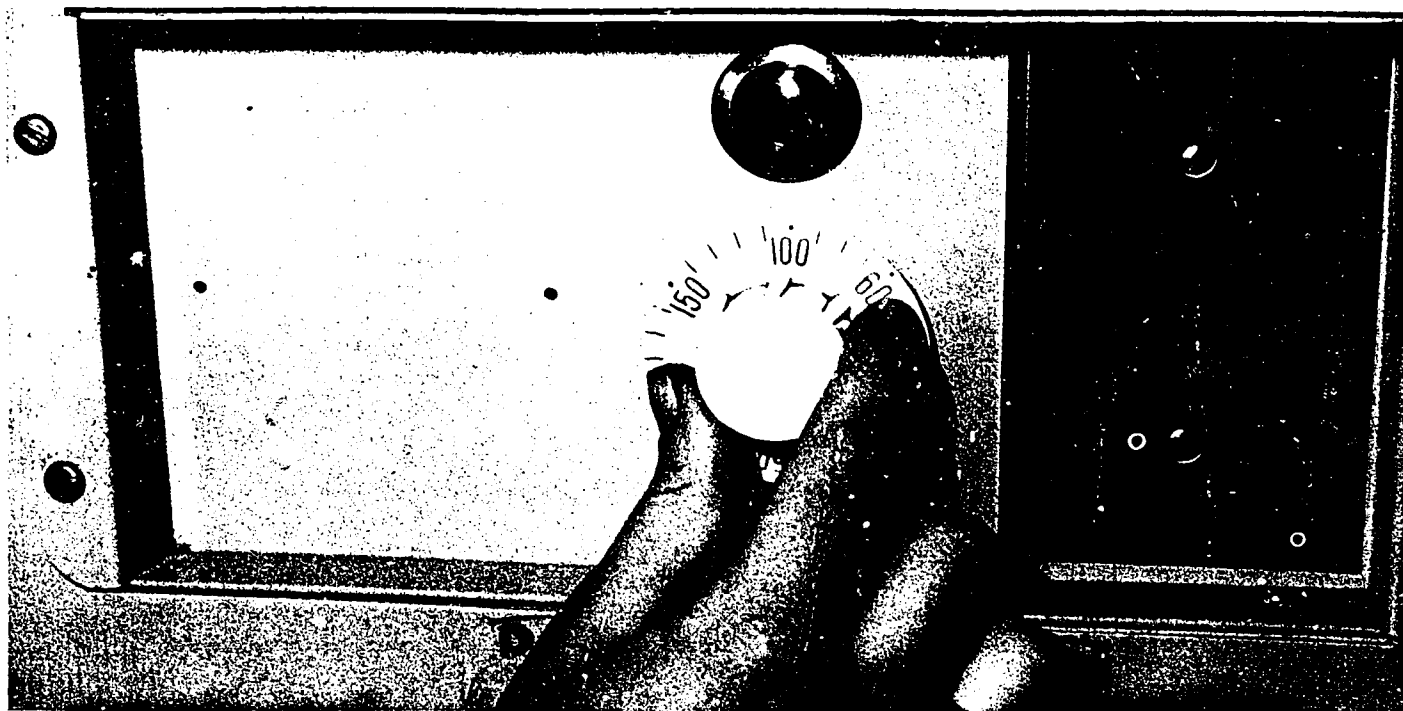

Figure 2-7. Film dryer controls.
(1) Hang your wet film up and squeegee it in the conventional manner.
(2) Turn the main switch to ON (fig. 2-7).
(3) Set the thermostat (fig. 2-7) to the desired temperature. This should not be higher than 125° F. (52° C.).
(4) When checking on the condition of your film during drying, always turn the blower motor off before opening the drying chamber doors to prevent dust from being ingested into the drying chamber.